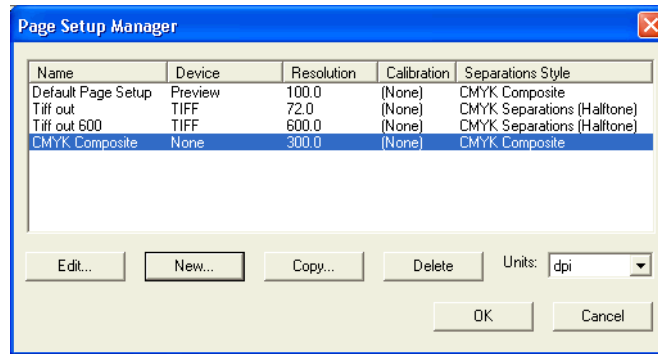

Figure 3.1 Page Setup Manager dialog box
2. In the Page Setup Manager, as shown in Figure 3.1, select a Page Setup. `Default Page Setup` is a safe choice: select it and click **Edit** to display the Edit Page Setup dialog box. If you want to create a new Page Setup, the easiest way is to copy the `Default Page Setup`. Select `Default Page Setup` and click **Copy** to display the New Page Setup dialog box.